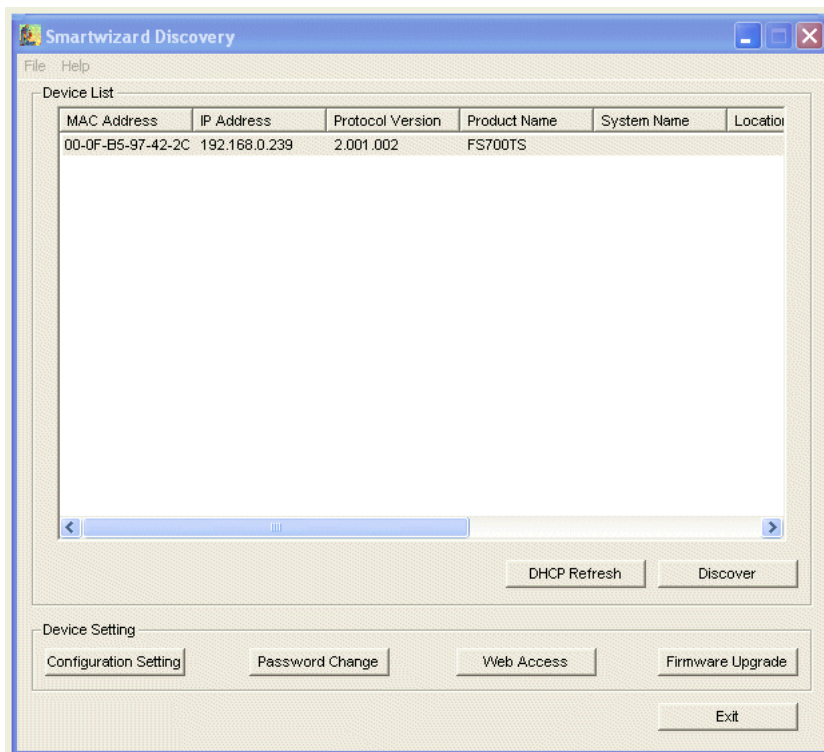

Figure 1-1
5. Click **Discover** for the SmartWizard Discovery utility to find your FS700TS 10/100 Stackable Smart Switch with Gigabit Ports. You should see a screen similar to that shown in Figure 1-1.
Alternatively, from the main screen shown on Figure 1-1 you can access these additional functions:
If you click **Firmware Upgrade** from the main screen (see Figure 1-1), after you have selected the switch to upgrade, the following screen appears: